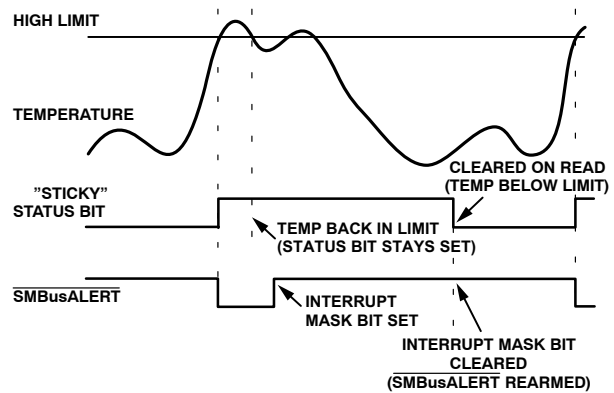

Figure 31. Handling SMBusALERT
7. Periodically poll the status register. If the interrupt status bit clears, reset the corresponding interrupt mask bit to 0. The  $\overline{\text{SMBusALERT}}$  output and status bits then behave as shown in Figure 31.